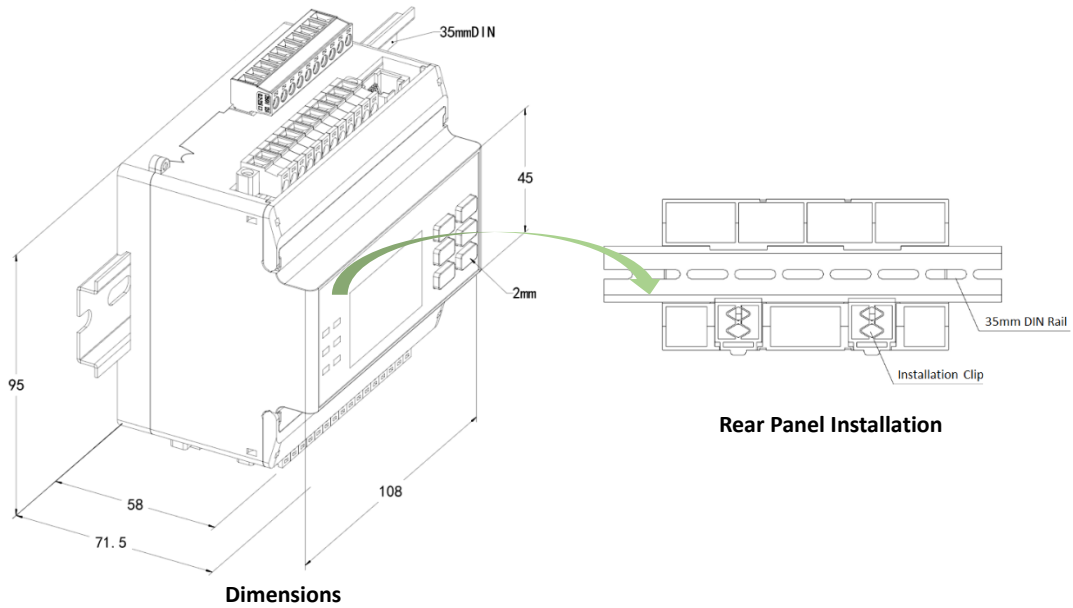

Figure 2-5 Installation
- Align the top of the mounting channel at the back of the PMC-521D-A5 at an angle against the top of the DIN Rail as shown in Figure 2-5 below